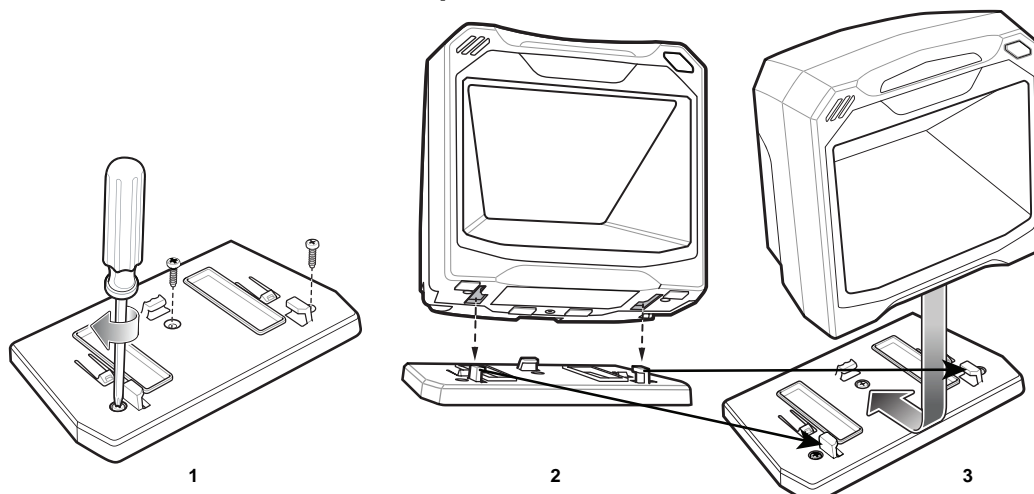

Figure 1-10 Table Top Mounting Diagram
3. Figure 1-10 - 1: Mount the table bracket with three screws (not included).
4. Figure 1-10 - 2: Invert the scanner slightly and align the mounting slots over the plastic tabs on the bracket.
5. Figure 1-10 - 3: Insert the plastic tabs into the mounting slots on the scanner, and slide the scanner back until it clicks into place.